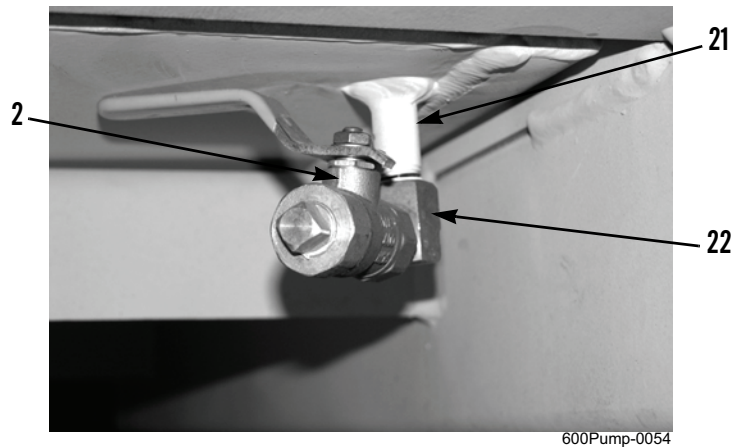

Figure 7. Drain Valve.
9. Remove drain valve (Figure 7, Item 2) and elbow fitting (Figure 7, Item 22) from fuel tank nipple (Figure 7, Item 21).